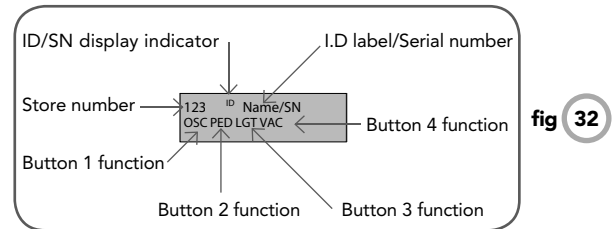

fig 32
DCB-05 can store up to thirty (30) transmitters in its memory. Each transmitter can be allocated an alphanumeric ID label up to eleven (11) characters in length and each button can be assigned to one of several control functions. The settings for a transmitter are represented in (Fig. 32). It shows the transmitter's store number, ID label or serial number and the functions assigned to each of its four buttons. To toggle between ID/SN display, press UP/DOWN with the cursor on the ID/SN indicator. The procedures below code, delete, replace, edit and copy transmitter records.